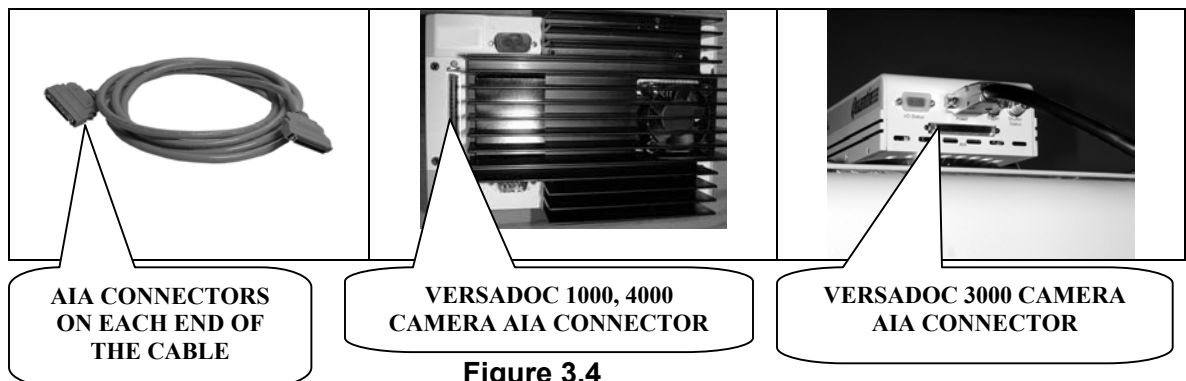

Figure 3.4
1. Connect the AIA cable (Part #800-0247) to the AIA port on the camera (See Figure 3.4). Push the cable to the connector such that it clicks and snaps in place properly.